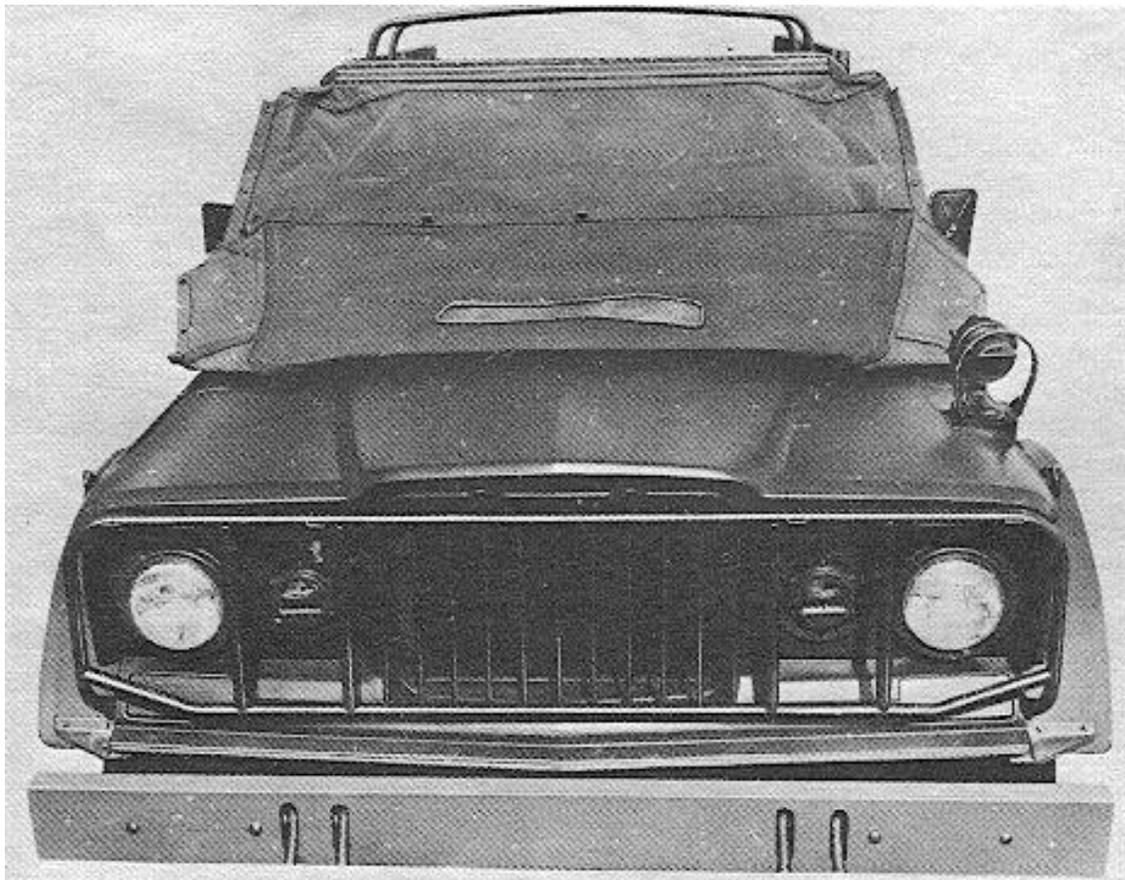

Figure 13. Paulin over windshield.
2. Throw paulin over the windshield and pull paulin edge from windshield channel. Remove paulin from vehicle and fold. See figure 13.